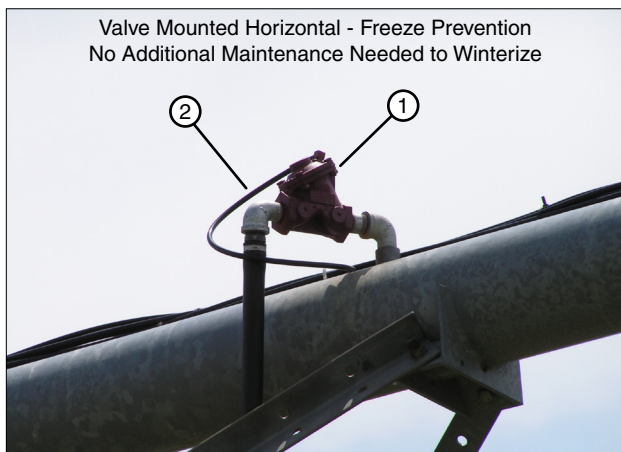

Figure 170-2 1. Aquamatic Valve
One or more Aquamatic sprinkler valves are opened and closed by one solenoid valve in the VRI tower box. A plastic tube connects each Aquamatic sprinkler valve to a solenoid valve. Refer to Figure 170-2.
A typical plumbing configuration for regions where the temperature during the winter months drops below 40°F (4°C), and/or the growing season is six months is shown in Figure 170-2.
- The valve is mounted horizontally which allows water to drain out of the valve and plumbing reducing the possibility of damage due to freezing. Refer to Figure 170-2.